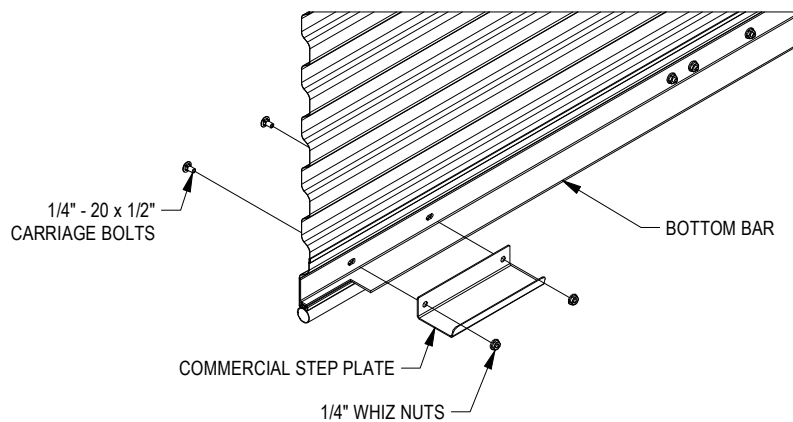

FIGURE 17:
- ▶ For motor operated door, install commercial step plates only. See Figure 17.